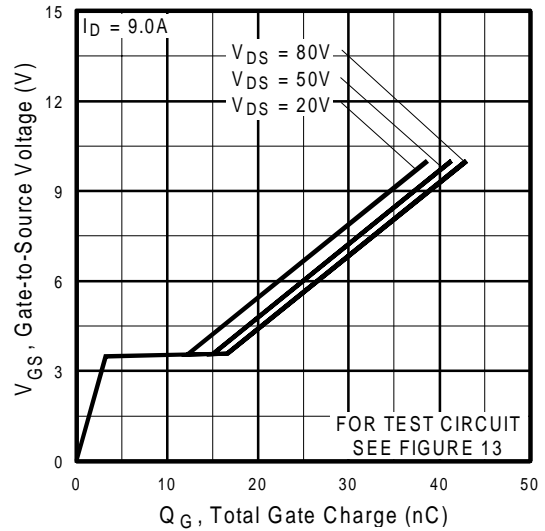

Fig 6. Typical Gate Charge Vs. Gate-to-Source Voltage
| Q_{gd} | Gate-to-Drain ("Miller") Charge | — | — | 20 | | $V_{GS} = 5.0V$, See Fig. 6 and 13 ④ ⑤ |